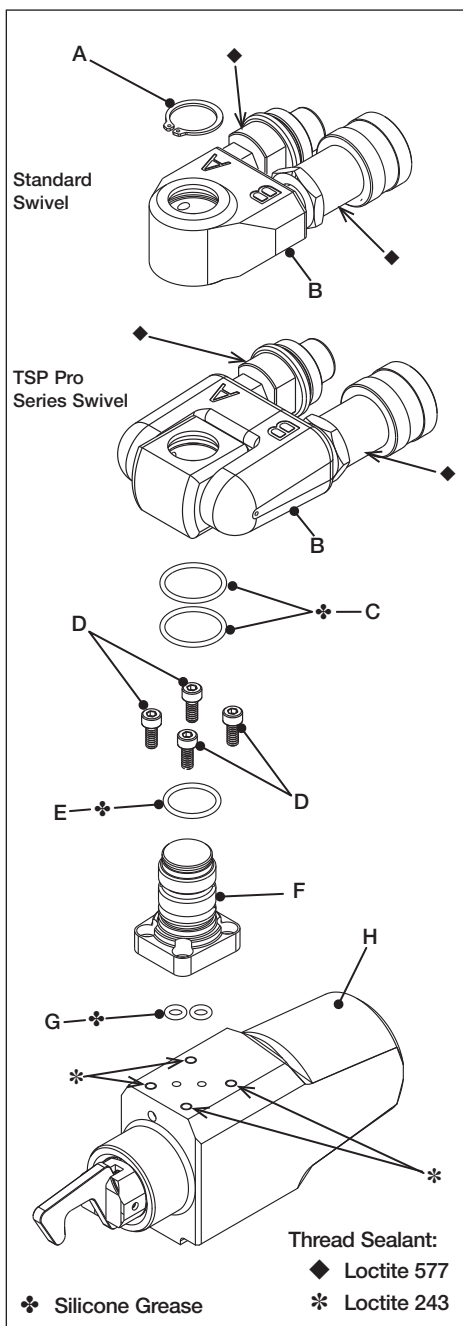
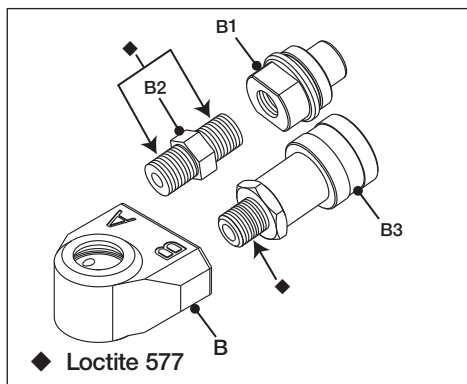

Fig. 14
Fig. 17
### 5.3 Full Maintenance - Hydraulic Swivel and Drive Unit (Fig. 14, 15 and 17)
Refer to Figs. 14 and 17 for swivel components.
- Apply a small amount of Loctite 243 thread sealant to the threaded holes in the drive unit. See (\*) in Figure 14 for locations.
- Install two O-rings (G) into the ports on the base of the swivel post (F).
- Place the swivel post (F) on the drive unit (H), making sure that hydraulic ports are aligned. Be careful that O-rings (G) do not drop out or become pinched or cut.
- Install the degreased M4 socket head capscrews (D) and tighten them to 3.7 Ft.lbs [5.1 Nm].
**NOTICE** Install the couplings (B1 and B3) and adapter (B2) before installing the swivel (B) on the swivel post (F). Use a vise with soft jaws to hold the swivel as couplings and adapter are installed.
- Apply Loctite 577 sealant to threads on female coupling (B3) and adapter (B2). See (◆) in Figure 17 for sealant locations.
- Install a O-ring (E) into the groove on the swivel post (F).
- Install O-rings (C) into the grooves inside the swivel assembly (B).
- Coat O-rings (E and C) with a small amount of silicone grease. Then, carefully slide the swivel assembly (B) onto the swivel post (F).
- Reinstall the circlip retainer ring (A).